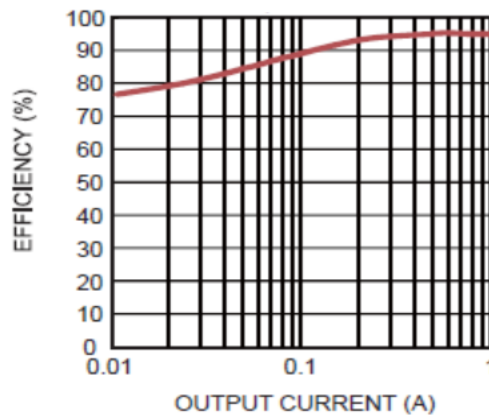

Figure 13: MP2317 Efficiency
- High efficiency: 96% peak, 80% at 12V to 5V/20mA (see Figure 13)